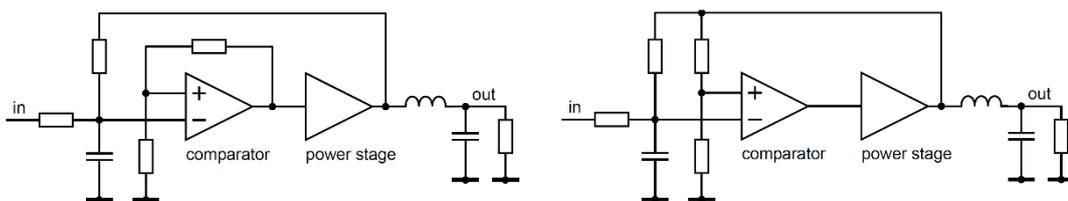

Figure 3: Hysteresis Switching Topology
- Hysteresis switching, see Figure 3.